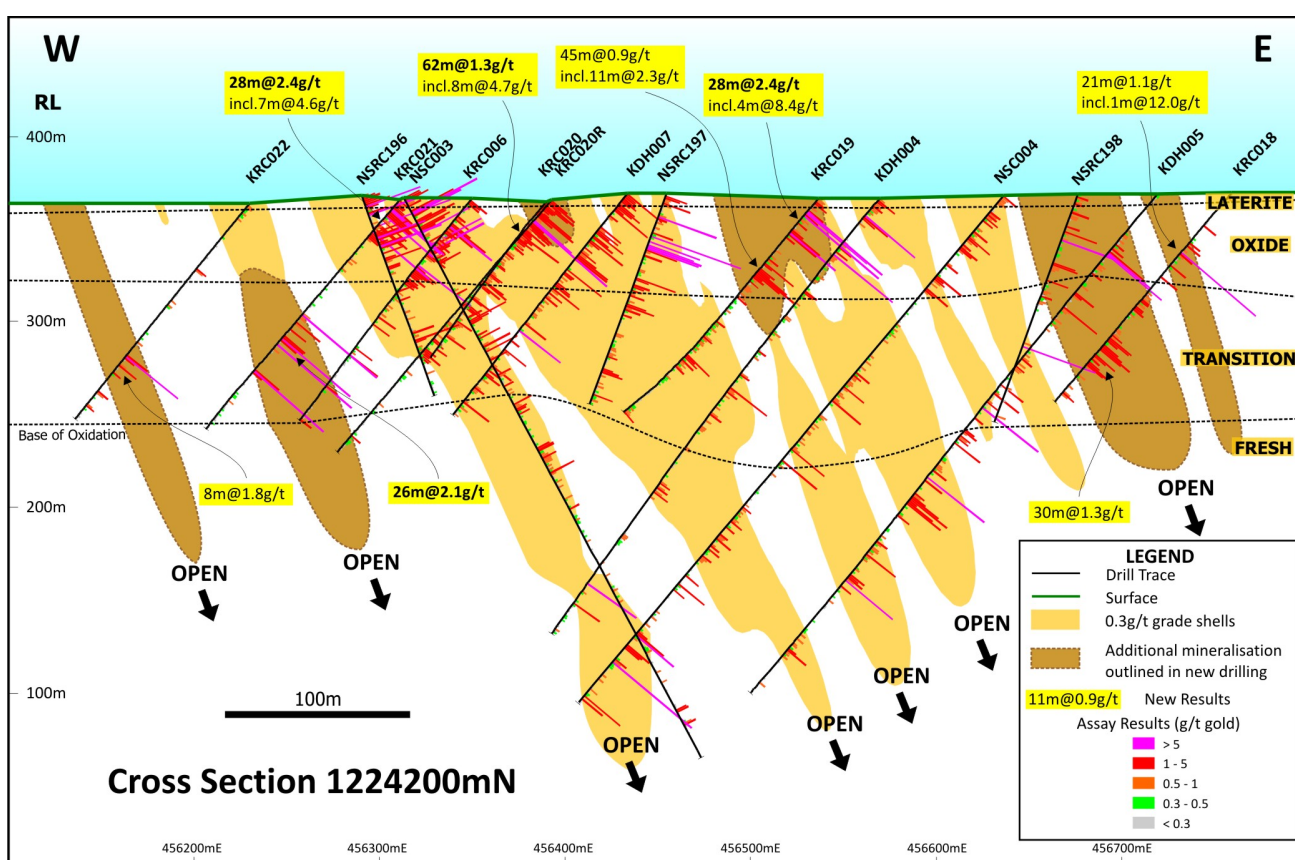

Figure 1: Drill section 1,224,200mN with new assays for KRC018 - KRC022 & KRC020R.
Golden Rim recently commenced its second round of Mineral Resource definition drilling at Kada, focused on an area where Newmont previously outlined a non-JORC resource (Figures 2 & 4). New assay results from six infill reverse circulation (RC) holes (KRC018 – KRC022 & KRC020R) for 901m on drill section 1,224,200mN are reported in this announcement (Figure 1).
Drill hole collar details are provided in Table 1 and the hole locations are depicted on Figure 2. All significant new gold intersections ($\geq 5\text{m} \times \text{g/t gold}$) are presented in Table 2 and Figure 1.
Golden Rim drilled hole KRC018 east of its initial drilling on section 1,224,200mN with the aim of extending or closing out mineralisation to the east. Several broad gold intersections were identified in both the oxide zone and the fresh zone (Figure 1).
Hole KRC019 was completed after preliminary modelling identified a sizable gap in the drilling data with potential to add significant gold ounces to the Kada resource. Broad zones of oxide gold were intersected in KRC019 that are higher grade than expected and confirm mineralisation continuity in the oxide zone (Figures 1 & 3).
Holes KRC020 and KRC020R are twin holes with KRC020R drilled after KRC020 was abandoned due to mechanical issues with the drilling rig. Both holes show consistent zones of shallow, broad oxide gold mineralisation (Figure 1).
to the west (Figure 1). KRC021 also intercepted multiple, broad zones of oxide mineralisation, while KRC022 intersected some promising fresh rock mineralisation.